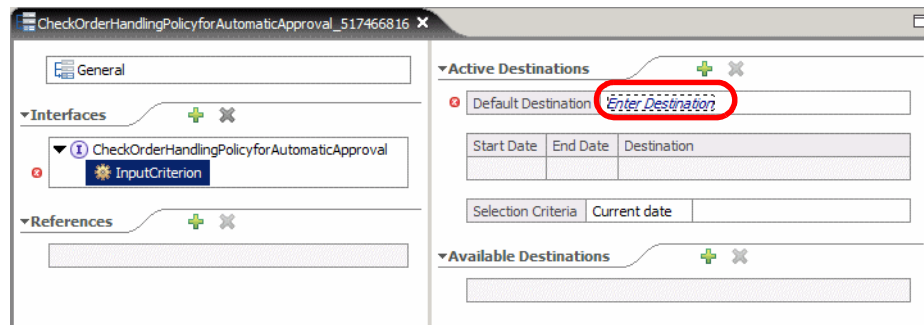

Figure 9-21 Rule group destination
- ▶ Select *InputCriterion* (Figure 9-21).